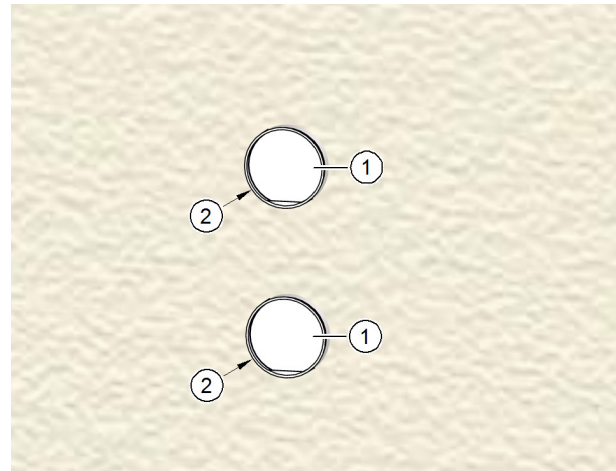

Fig. 25: Wall box plastered on the outside
- ▶ Remove the two protective sleeves (item 1 in Fig. 25).
- ▶ Chamfer both pipe breakthrough edges (item 2 in Fig. 25) to roughly 5x45° to create enough space for the silicone bead.